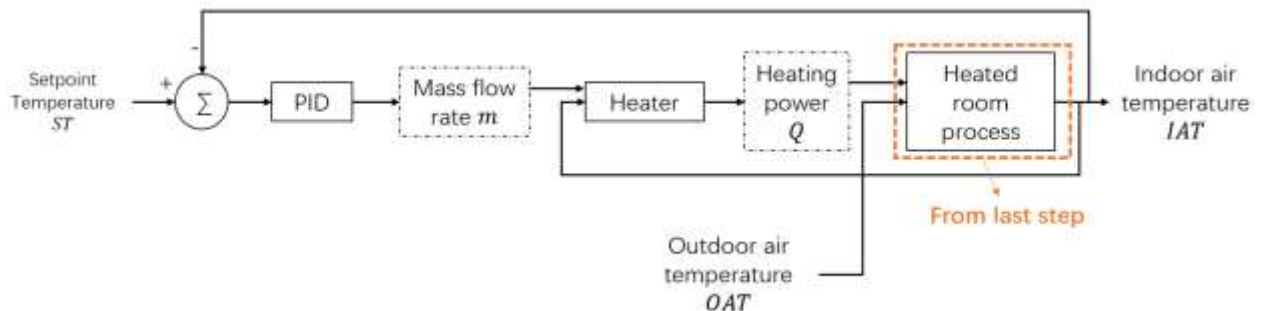

Figure 2 Block diagram of the feedback control system for the heated room (black dashed blocks represent the intermediate outputs)
- Figure 2 shows the block diagram of the feedback control system.